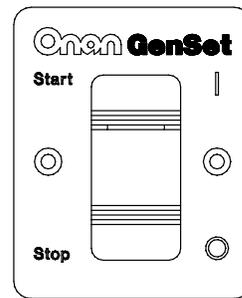

FIGURE 12. REMOTE SWITCH
- Remote start/stop switch with indicator lamp only (Figure 12).